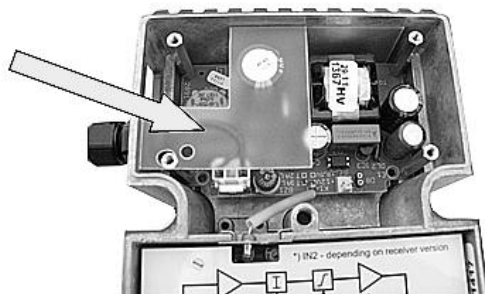

Fig. 8.13. Replacing a fuse in the ORB 729 - step 4.
- Fig. 8.13. Replacing a fuse in the ORB 729 - step 4.